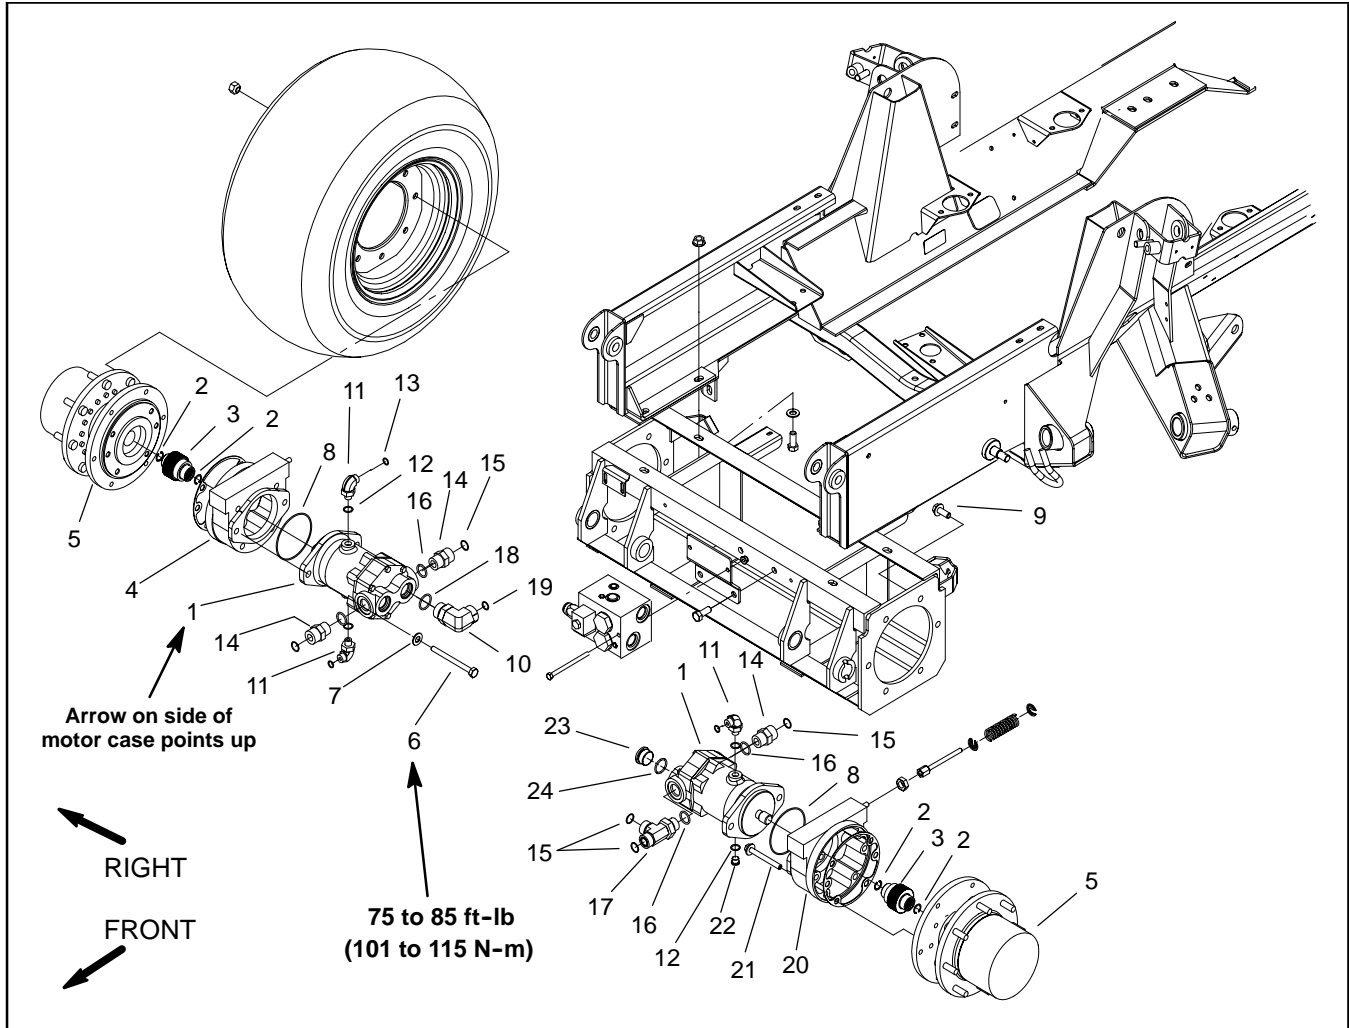

Figure 72
## Removal (Fig. 72)
4. Remove wheel motor using Figure 72 as a guide.
## Installation (Fig. 72)